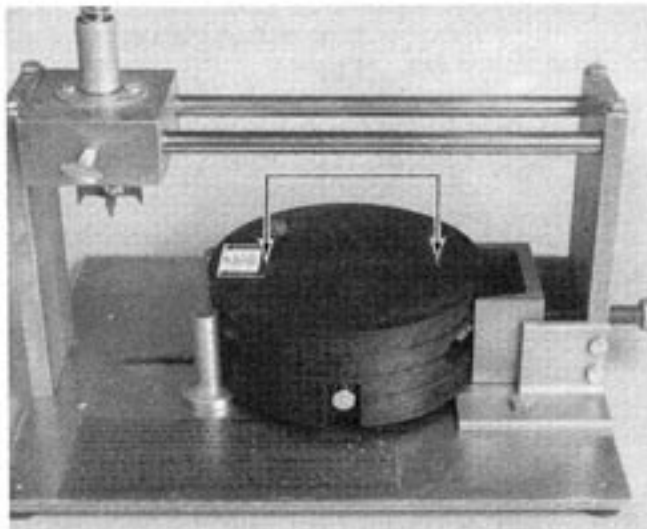

Figure 10 — Positioning End Plate
- 6.05 Place End Plate with seam, see Figure 10, parallel to guide rods and hand tighten screws.
NOTE: The holes must cut along the seam of the End Plate halves and within the outer dimensional marks indicated by the arrows. Figures 10, 10a.